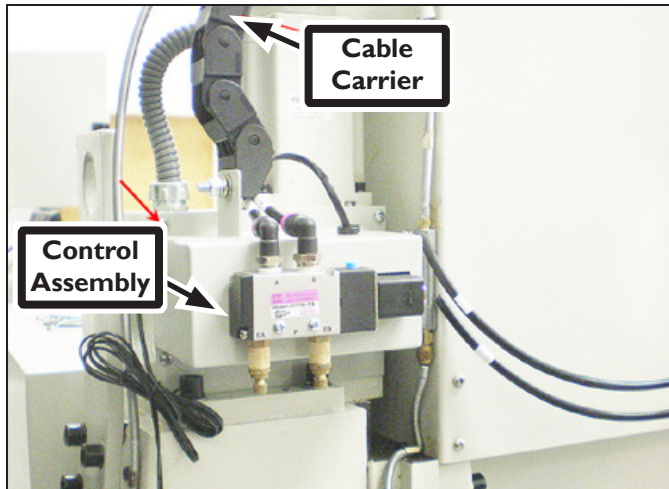

Figure 17
5. Using the screws removed earlier in this section, mount the Control Assembly as shown in **Figure 17**.